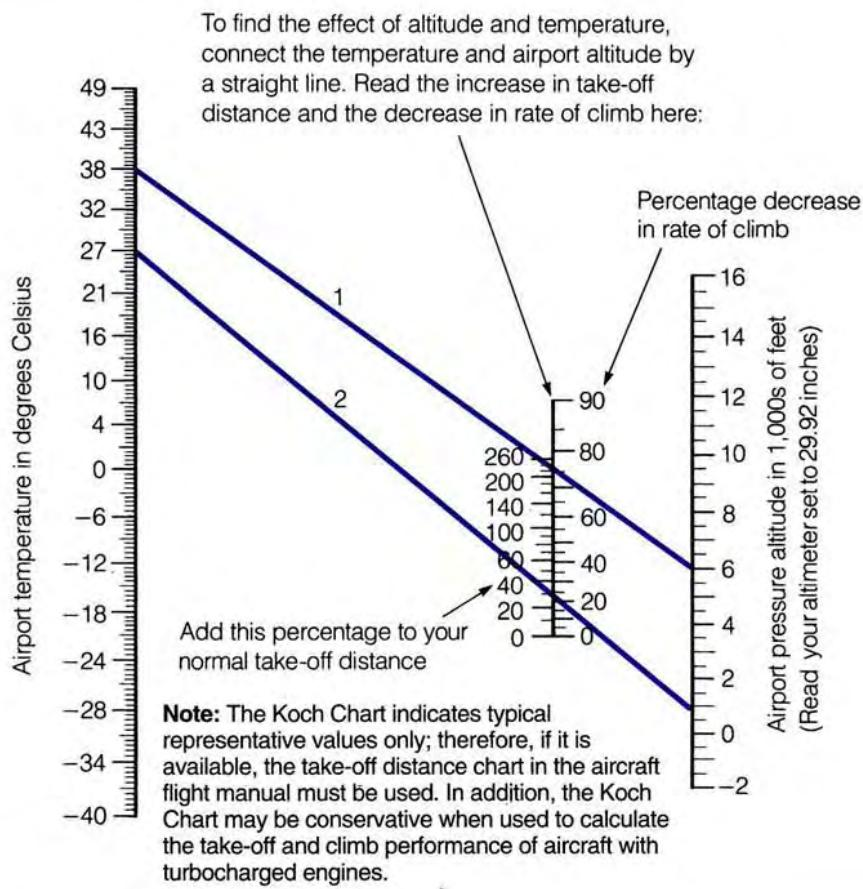

Figure 2-43 The Koch Chart for Temperature and Altitude Effects
tables in the Aircraft Flight Manual, which show the changes in performance resulting from various airport elevations and air temperatures. The aircraft manufacturer's recommendations are always the best source for this information but should these recommendations not be available, useful take-off performance data may be calculated by using the Koch chart (Fig. 2-43).
The straight line (1) used as an example in the Koch Chart (Fig. 2-43) shows that an aircraft at an airport with a pressure altitude of 6,000 feet with an outside (ambient) air temperature of 38°C (100°F) requires 220 percent more take-off distance than the same aircraft would require at sea level in standard atmosphere. Even at a common airport pressure altitude of 1,000 feet, 30 percent more take-off distance is required if the ambient air temperature is 27°C (80°F) (line 2).